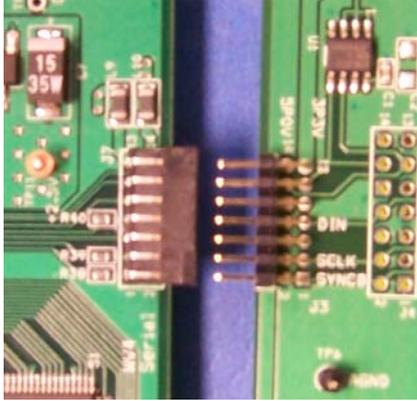
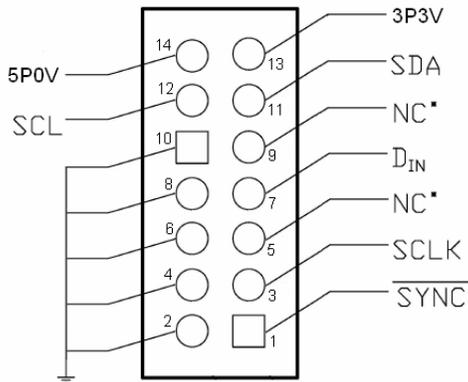

Figure 5: WV4 to DAC128S085 Connection
Figure 6: J3 (WV4S) Header Connection
2. Connect the J3 header on the DAC128S085 Evaluation board to the J7 serial connector on the WV4 board. The Evaluation board can either be powered by an external supply (recommended) through J2/J5 or by the +5.0V and +3.3V supply from the WaveVision. Refer to *Figure 5* for the serial connection and *Figure 6* for specific pin connection details.